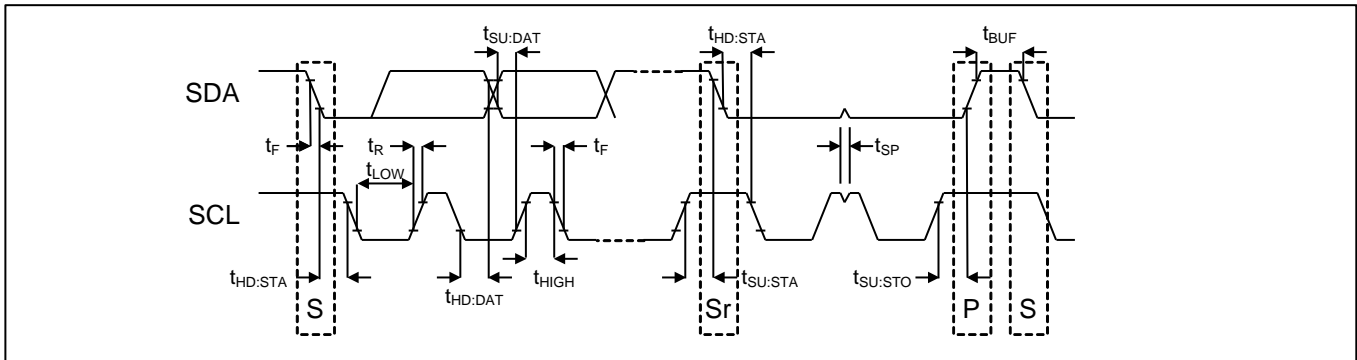

**Figure 11 - SPI Slave Interface Timing**
- Note 3:** See timing diagram in Figure 11.